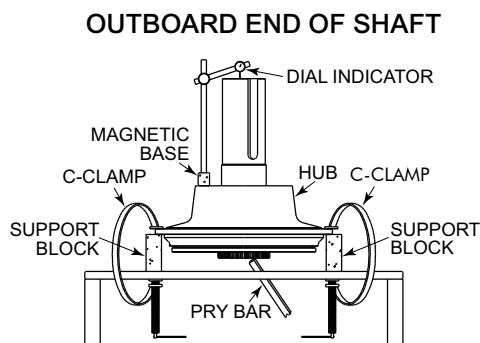

Figure 6.4.1 Setting Axial Bearing Clearance
- Support hub and affix to work table with the shaft not touching the table; reference Figure 6.4.1. (Page 21).
18. Support hub and affix to work table with the shaft not touching the table; reference Figure 6.4.1, next page.
1. Support housing to allow the shaft to rotate freely; reference Figure 6.4.1.
2. Affix the hub to the support table with C-Clamps or bolting to table; reference Figure 6.4.1.
5. Affix the magnetic base of the dial indicator to a flat area of the housing; reference Figure 6.4.1.
8. With a pry bar, push the inboard end of the shaft up; reference Figure 6.4.1.